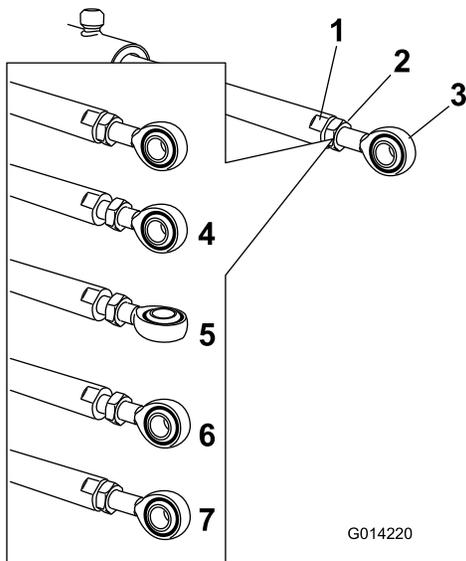

Figure 65
- Use a wrench on the flat sides of the actuator rod to immobilize it then loosen the jam nut to allow for the eyelet rod to be manipulated (Figure 65).
- Turn the eyelet rod in the actuator rod to shorten or lengthen the extended actuator to the desired position (Figure 65).